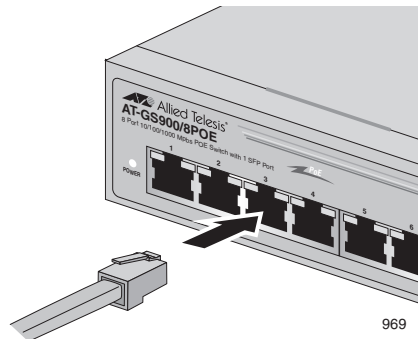

Figure 11. Connecting the Twisted Pair Data Cables
1. Connect the twisted pair data cables to the RJ-45 ports on the switch, as shown in Figure 11.